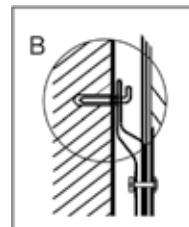

Fig. 6
2. After you chose the proper place to install the water heater, determine points for holes for expansion hook bolts (to be determined in accordance with the data sheet for the appliance you chose). Drill two holes of the corresponding depth in the wall using a drill, dimensionally fit for expansion bolts, enclosed with the water heater, insert bolts, turn the hook upwards, securely tighten nuts and then hang the electric water heater on these hooks (see Fig. 6).